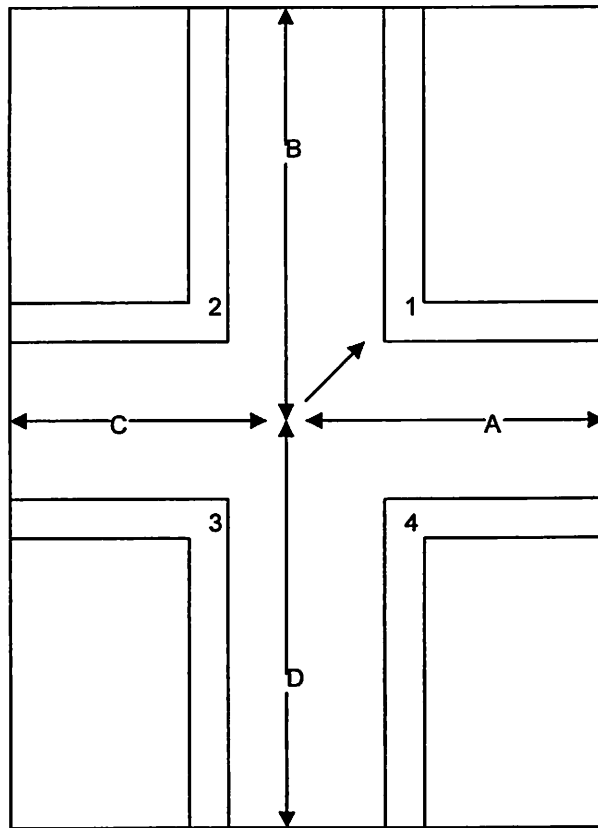

Figure 6.13
12. Measure the minimum separation of the outside edges of the focal spot strips (see Fig. 6.13).